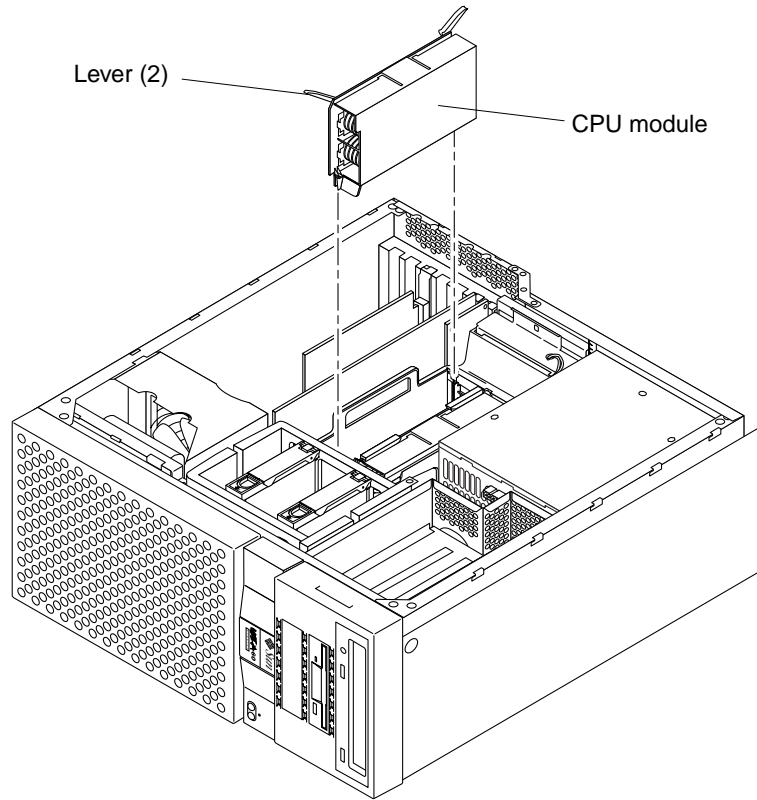

FIGURE 3-2 Removing and Replacing the UltraSPARC Module
4. Remove the CPU module as follows (FIGURE 3-2):
1. Replace the CPU module as follows (FIGURE 3-2):